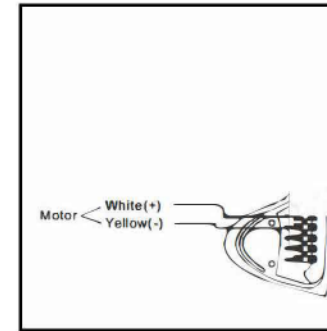

Figure 15
16) Connect the motor power cable as shown in Figure 15.